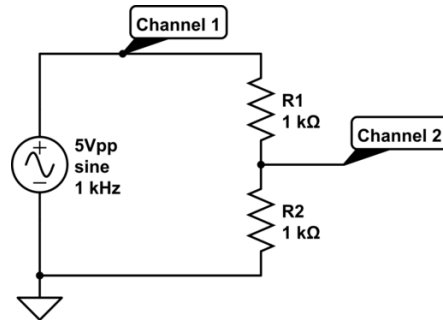

Figure 3: Voltage divider circuit with an alternating voltage source.
- Build the circuit in figure 3.